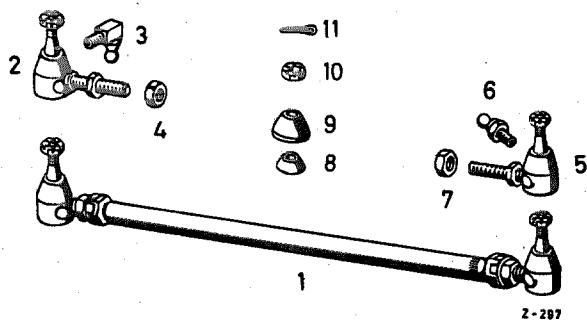

Fig. 33—6/3
11. Adjust the toe-in (see Job No. 40—3). Then tighten up the hexagon nuts (4) and tap over the locking plates (3) (see Fig. 33—6/1).